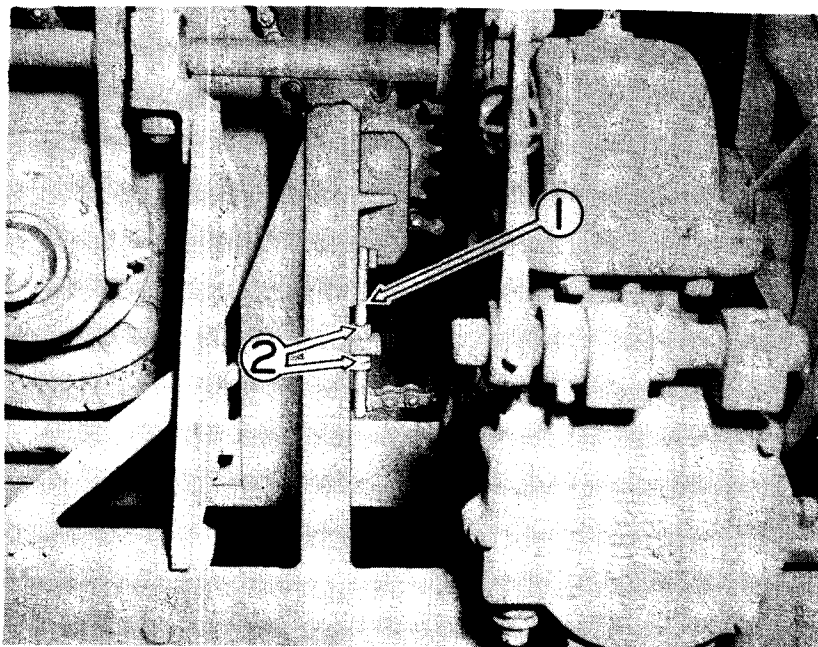

Figure 41 Hoist Drive Chain Idler
adjustable by the bolt (1), Figure 41. Loosen the nuts on capscrews placed through the sprocket mounting bracket. Raise or lower the sprocket to the desired adjustment by turning and resetting nuts (2).